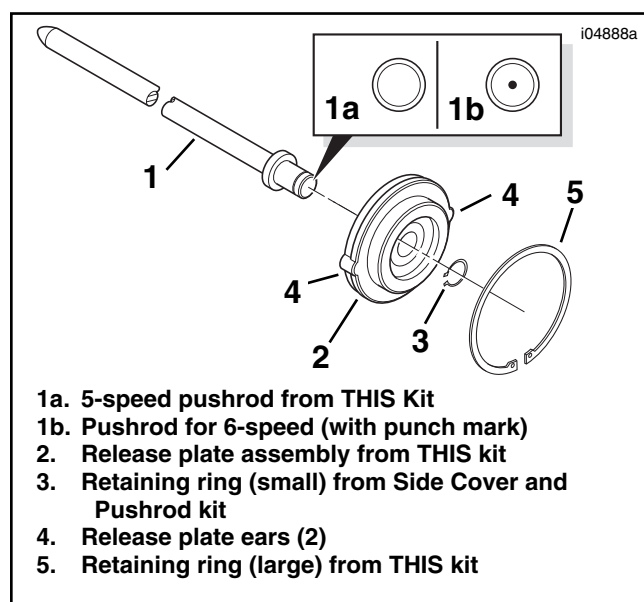

Figure 4. New Clutch Release Plate Assembly
For models with 5-speed transmission: Refer to Figure 4. Obtain the **new** pushrod (1), clutch release plate assembly (2) and small retaining ring (3) from **this** kit.